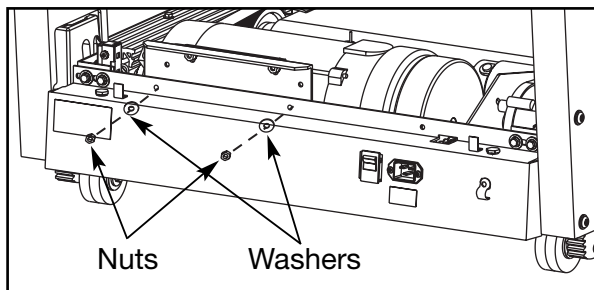

Figure 5
- A.** Loosen the two nuts and two washers on the drive motor mounting plate. See Figure 5. This will loosen the drive motor assembly and drive belt.
- B. Attach the two washers and two nuts on the drive motor mounting plate. See Figure 5. This will tighten the drive motor assembly and drive belt. **NOTE:** A drive belt that is too loose may squeal and you may be able to see it slip when you walk on the running belt.